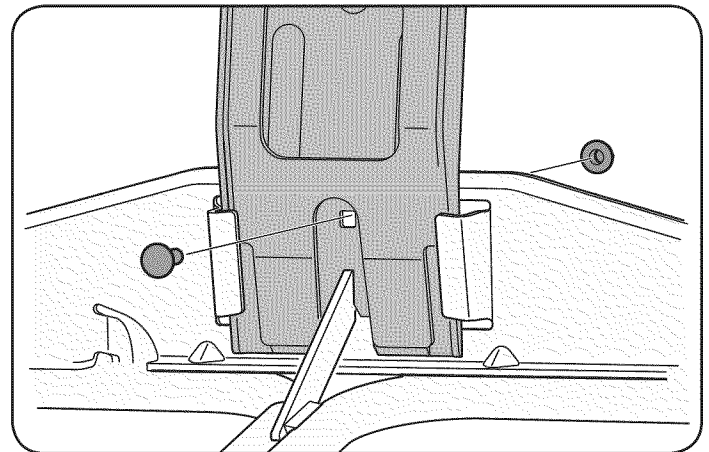

Figure 7
3. Secure with a carriage bolt (710-0276) and flange lock nut (712-04063) packed in with the upright support bracket. See Fig. 7.